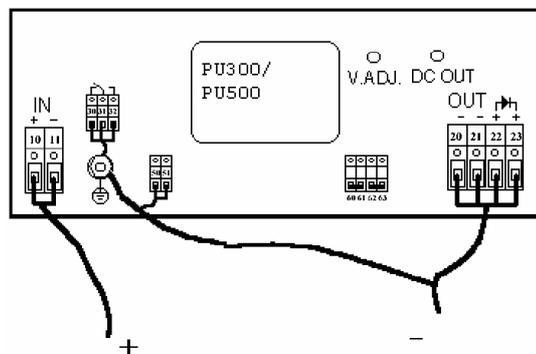

Figure 8. Input to output and input to case isolation voltage test.
4. Connect your isolation tester between input and case. See *Figure 8*. Raise the voltage of the isolation tester from 0V to corresponding value in *Table 2*. Check that the leakage current does not exceed 5µA. The voltage should not be applied for more than a few seconds or the Y-capacitors might be damaged.
2. Connect the output terminals of the converter to case. See *Figure 8*.
4. Connect your isolation tester between input and case. See *Figure 8*. Raise the voltage of the isolation tester from 0V to the corresponding value in *Table 2*. The voltage should not be applied for more than one (1) minute or the Y-capacitors might be damaged.